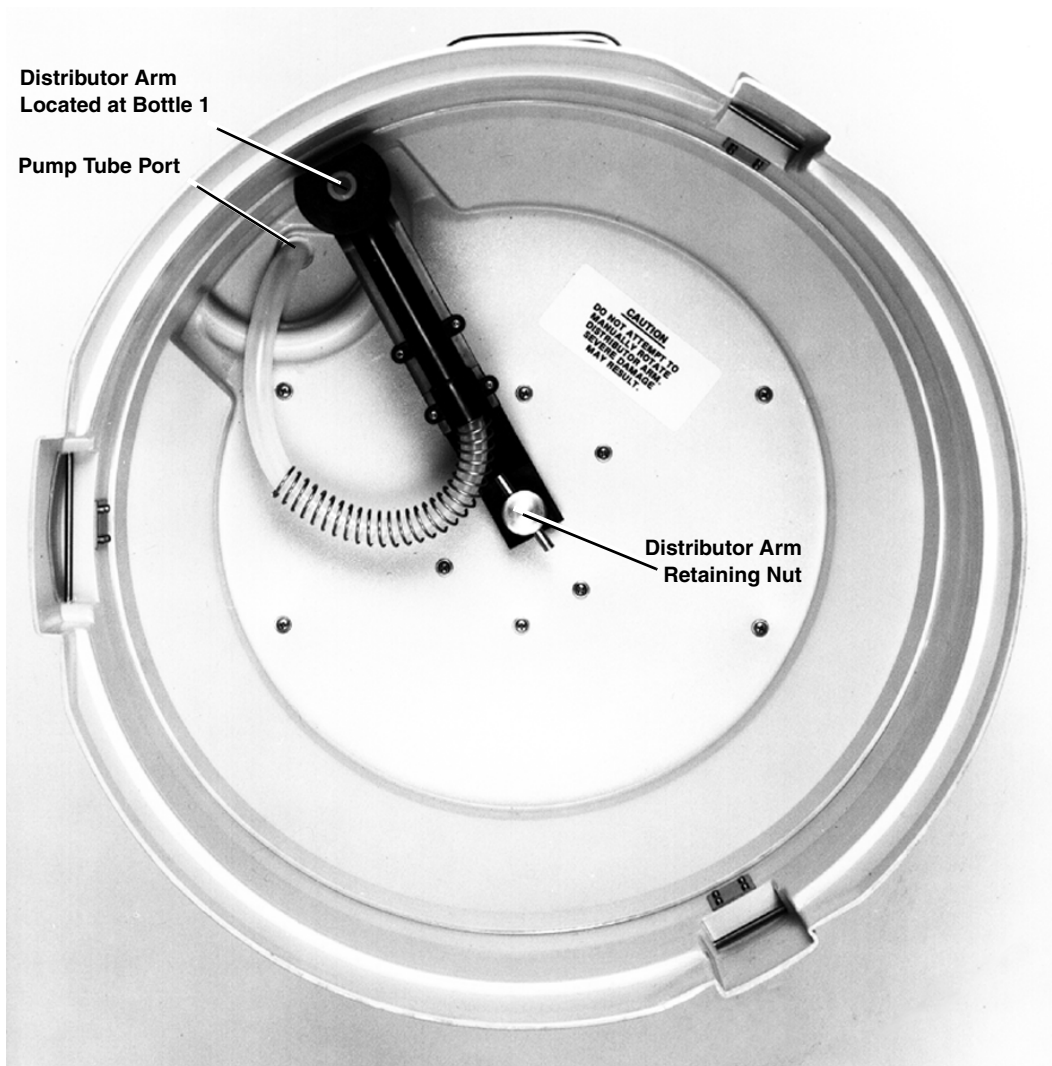

Figure 5-1 Interior of 3700 Standard Center Section: View of the Pump Tube
2. Separate the center section from the remainder of the sampler (as described in *Assembly and Disassembly of the Case*, Section 2.1), and turn the center section over, as shown in Figure 5-1.
3. Unscrew the distributor-arm retaining nut, indicated in Figure 5-1, and pull the arm off the distributor shaft. Do not manually rotate the distributor arm.
5. Turn the center section back over, and pull the tube out of the pump tube port, indicated in Figure 5-1.